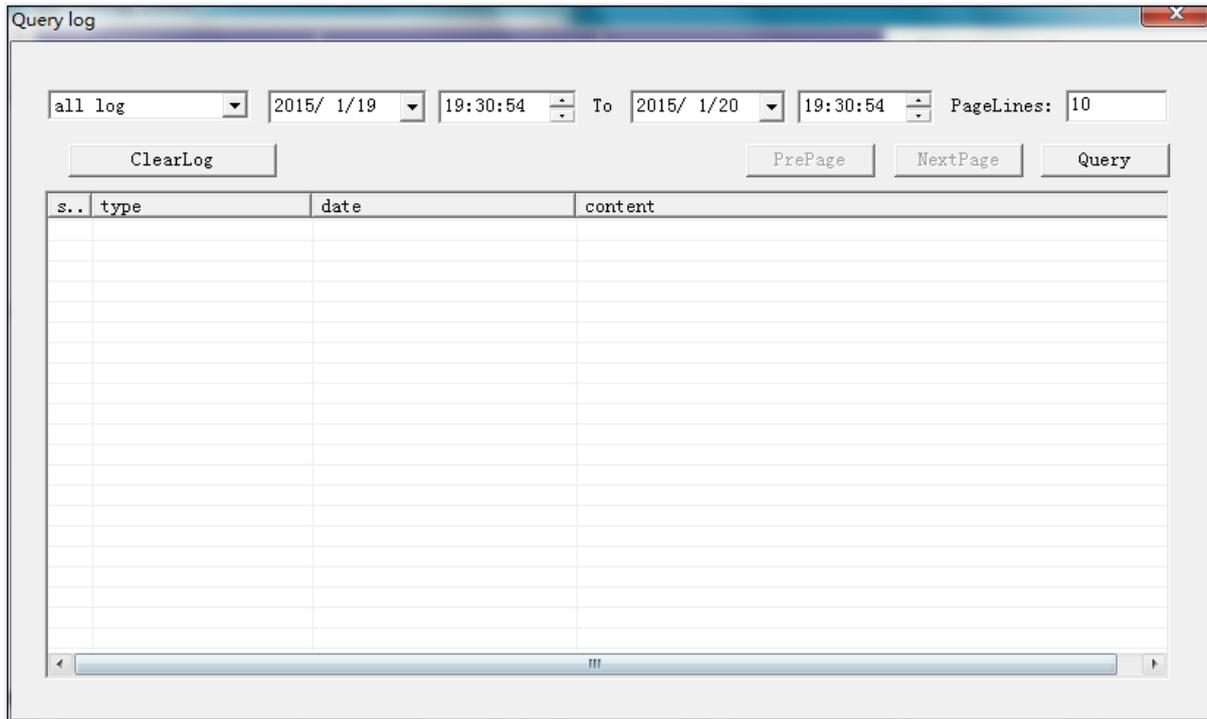

Figure 2- 23
Step 1. In Control&Search dropdown list, select log management, and click Control&Search. See Figure 2- 23.